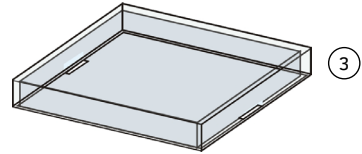

FIG. 5 PLACING A BUTTON LABEL INSIDE A KEY CAP
3. Install the Key Cap on the pushbutton (FIG. 5):